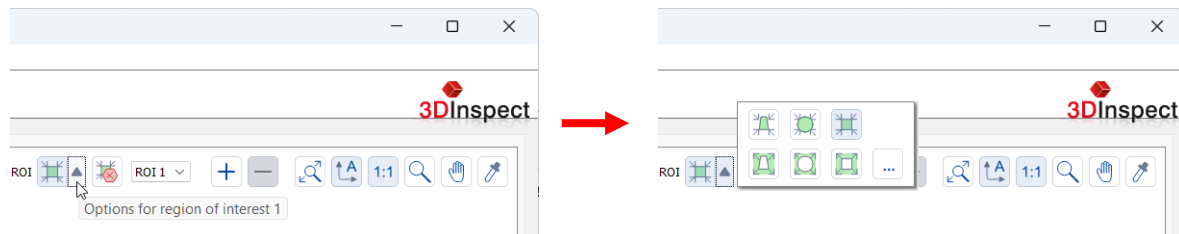

Fig. 3.70: "Region of interest options" context menu (selection ROI, type, mode)
- ➡ Select the ROI you want to change from the list (see Fig. 3.70).
- ➡ Open the "Region of interest options" context menu. Click on the corresponding icon to the right of the "Set region of interest" button (see Fig. 3.70).
- ➡ Select the desired mode from the context menu (see Fig. 3.70).
Open the context menu for the desired ROI and click on the  button (see above, Fig. 3.70) or press the right mouse button in the profile view.